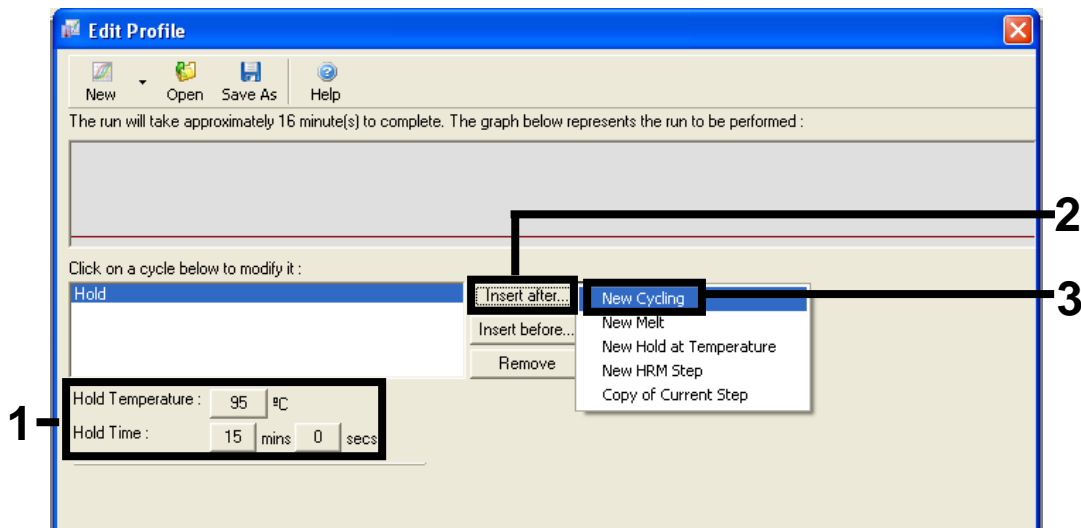

Figure 13. Initial incubation step at 95°C. 1 = "Hold Temperature" and "Hold Time" selection, 2 = "Insert after" button, 3 = "New Cycling" selection.
7. Change "Hold Temperature" to 95°C and "Hold Time" to 15 mins 0 secs. Click the "Insert After" button and then select *New Cycling* (Figure 13).